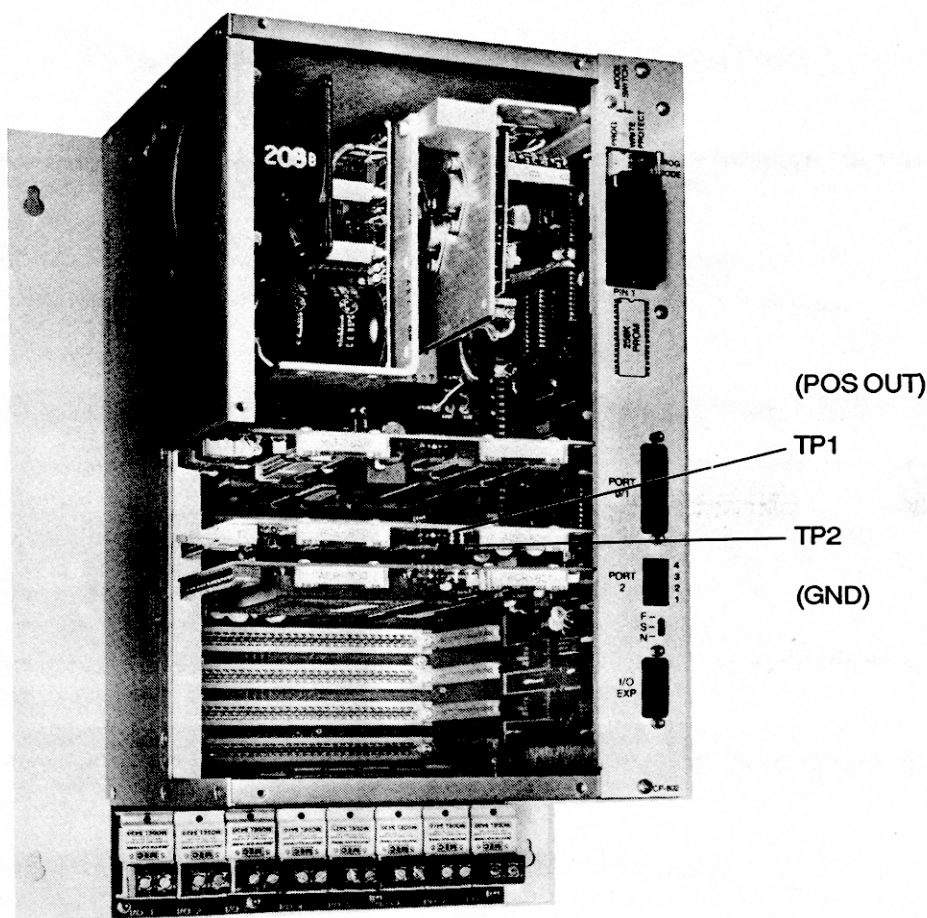

Figure 5-4 Location Of Test Points TP1 and TP2
6. Connect the red and black meter leads to test points TP1 (POS) and TP2 (GND) respectively (Figure 5-4).